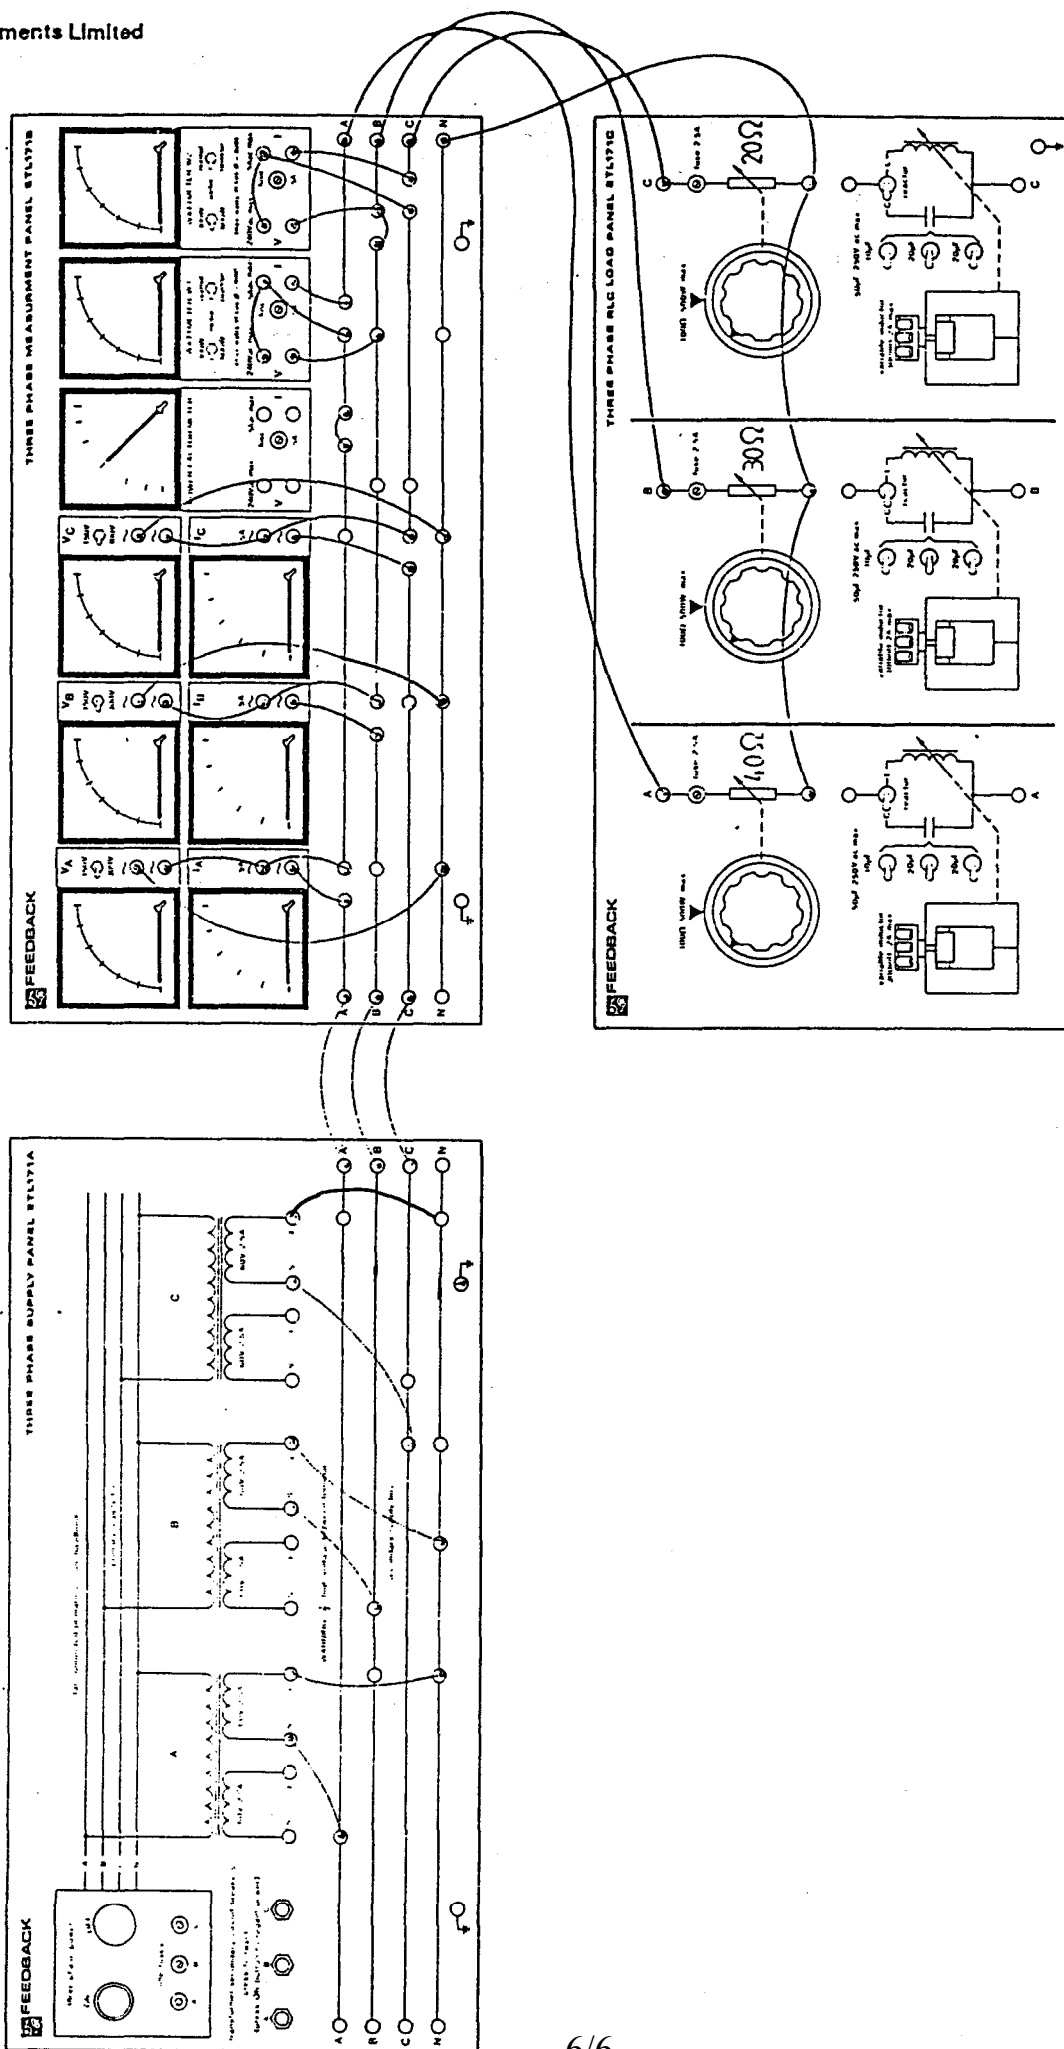

Fig 2.2 Connections for Experiment 2
1. Connect the Supply Unit, Measurement Unit and Load Unit as shown in fig 2.2, noting that the nominal values of voltage are all 60V.